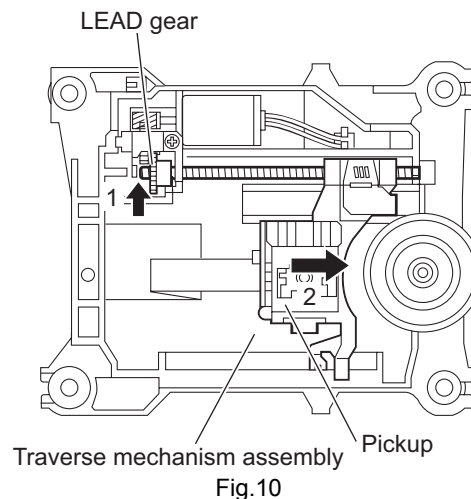

Fig.10
- (6) One turn the LEAD gear to direction of the arrow 1 and fully shift to direction of the arrow 2. (See Fig.10)